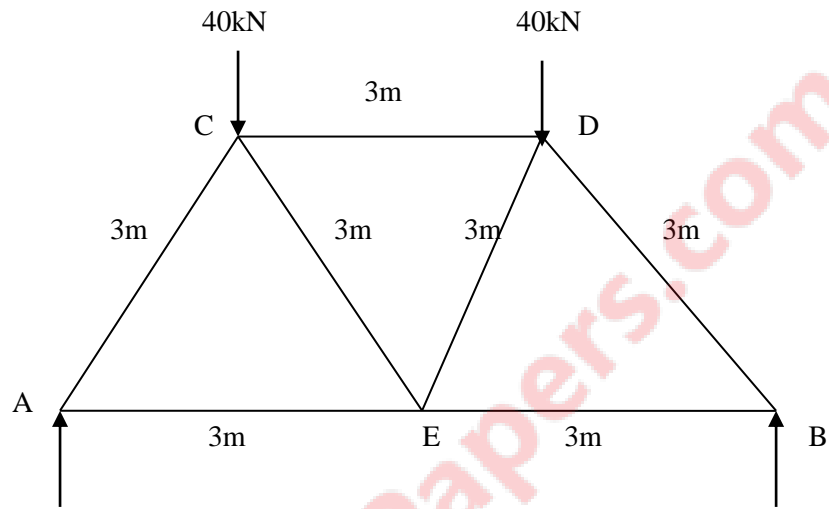

Figure. 4
- (c) Find forces in all the members of a truss as shown in figure. 4 07